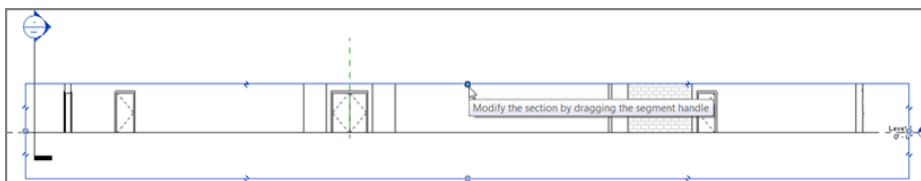

FIGURE 3.80: Stretching the grip down to crop the view
9. Notice that the crop region extends all the way up to the parapet. Select the crop region, and drag the top down to Level 2, as shown in Figure 3.80.